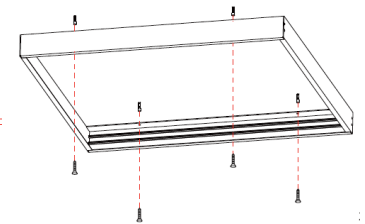

Fig. 13
2. Attach the frame to ceiling with screws (Fig. 13)